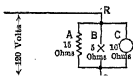

FIG. 44. Coil A , arc lamp B , and incandescent lamp C in parallel across 120 volts.
21. Parallel Circuit. Resistance. Suppose that it is desired to find the resistance of a parallel combination, as *A*, *B* and *C*, in Fig. 44. There are formulas for this, but the easiest method is to apply Ohm's Law as follows: